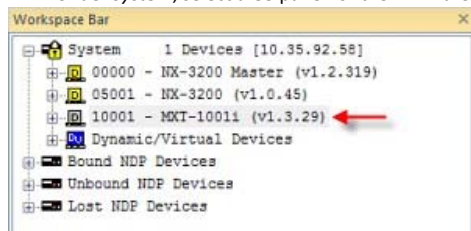

FIG. 157 NetLinx Studio Online Tree (MXT-1001 selected)
2. Under **System**, select a G5 panel for the firmware update (FIG. 157):